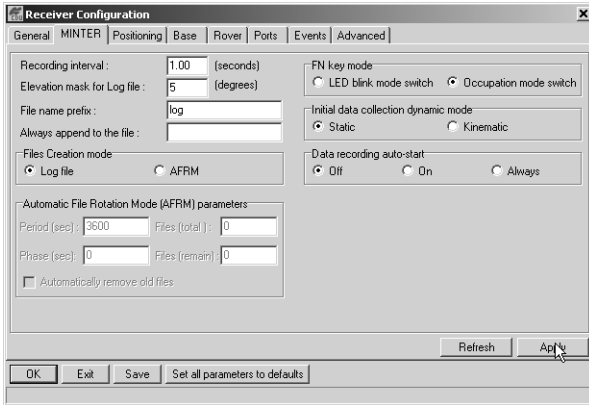

Figure 3-5. Rover MINTER Configuration
2. Using PC-CDU, click **Configuration->Receiver ->MINTER**, and configure the Rover with the following parameters, then click **Apply** (Figure 3-5 on page 3-9):